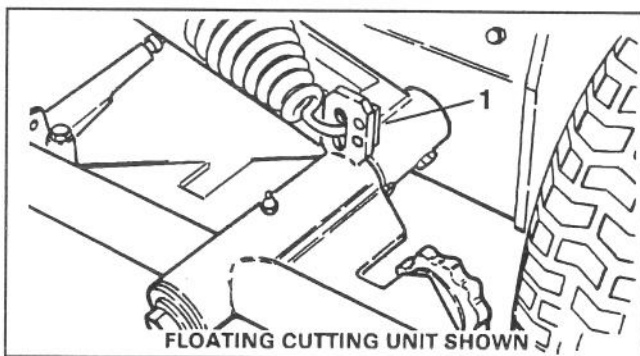

Figure 18
(Figs. 18–20)
- Hook one end of spring into second hole (from bottom) on cutting unit lift tab (Fig. 18).